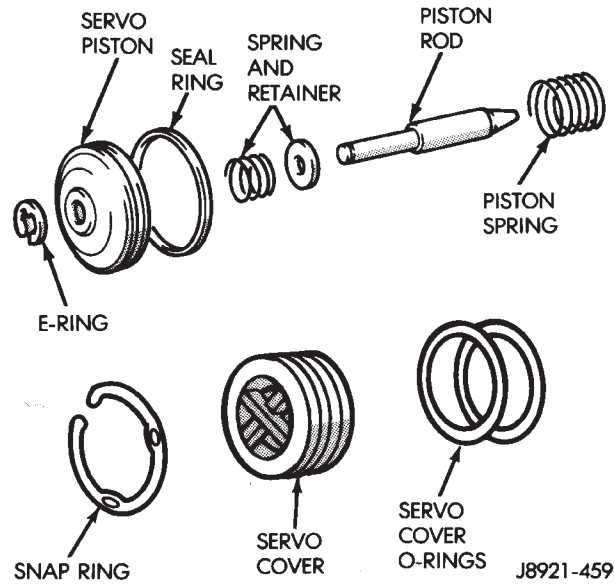

Fig. 75 Second Coast Brake Servo Components
(4) Remove and discard seal and O-rings from cover and piston (Fig. 75). Inspect E-ring, piston, spring and retainer, piston rod and piston spring. Replace worn or damaged parts.